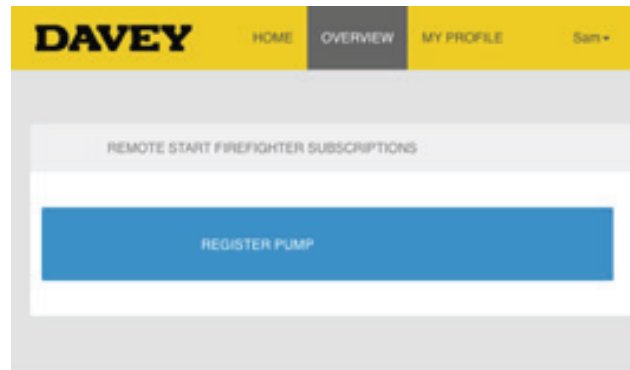

Figure 7.14
- > Click “REGISTER PUMP” (Figure 7.14);